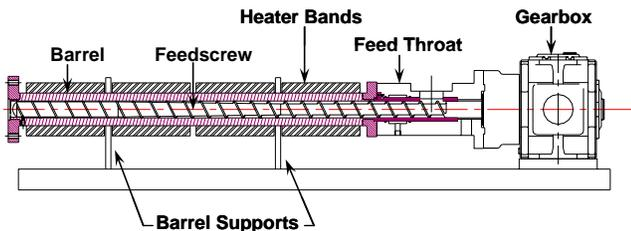
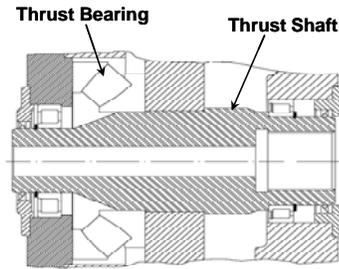
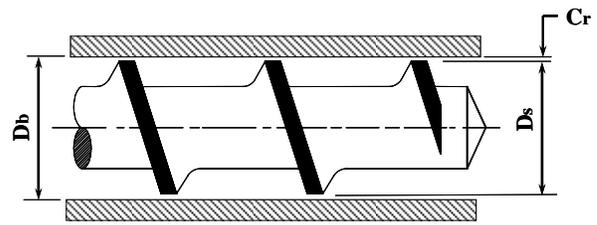

Figure 1. Typical extruder assembly.
Figure 2. Typical Gearbox and Thrust Bearing assembly.
Figure 3. Typical Screw and Barrel clearance.
In most single screw extruders the machine has four major components which make up the extruder; Gearbox, Feed throat, Barrel, and Feedscrew as shown in Figure 1. The gearbox, thrust bearing and shaft assembly is normally supplied as one unit as shown in Figure 2. The thrust shaft holds and turns the screw which is the centerline of the axis of rotation. The feedscrew, which is the heart of all extruders, is used to convey, melt and pump the molten resin into a desired form (1). In order to achieve and maintain optimum machine efficiency, the clearance between the screw and barrel must be kept at a minimum. The typical radial clearance  $C_r$  between the screw and barrel I.D. is shown in Figure 3 and is calculated by equation 1 (2).